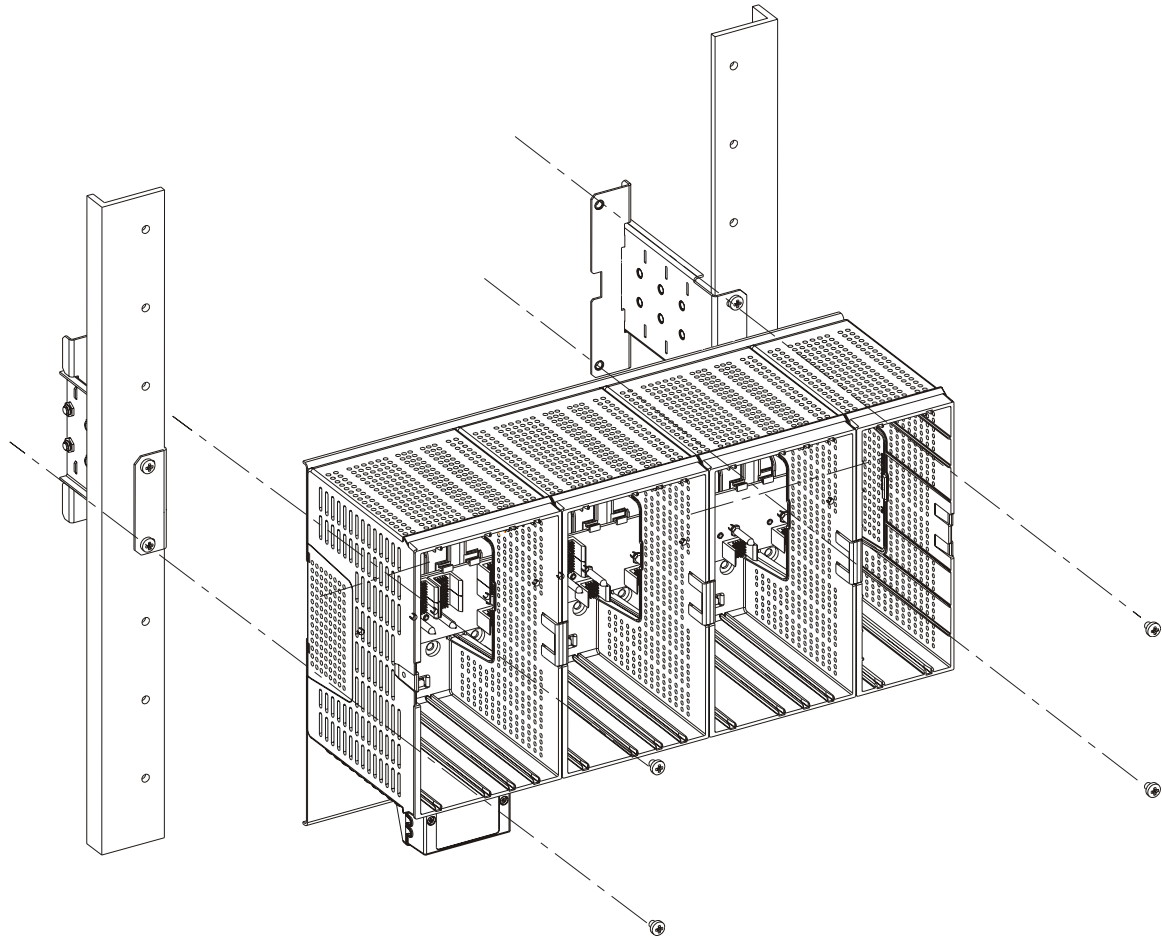

Figure 2-5 Installation of ACE3600 RTU 19" Rack- Exploded View
- 7) Using two supplied M5 (X6) screws and a 16 cm (6.3") long screwdriver, from inside the slot secure the 19" metal chassis to the small bracket. Repeat on the second side. See Figure 2-5.